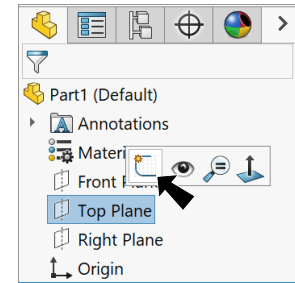
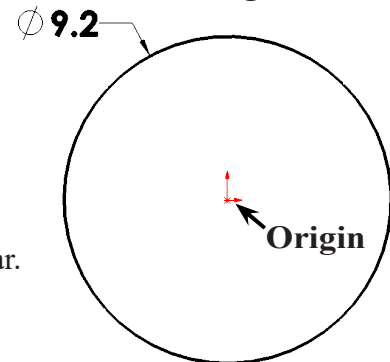

Fig. 1
Fig. 2
Step 2. Click **Top Plane**  in the Feature Manager and click **Sketch**  on the context toolbar, **Fig. 1**.
Step 3. Click **Circle**  (S) on the Sketch toolbar.
Step 4. Sketch circle at Origin , **Fig. 2**.
Step 5. Click **Smart Dimension**  (S) on the Sketch toolbar.
Step 6. Dimension **diameter 9.2**, **Fig. 2**.